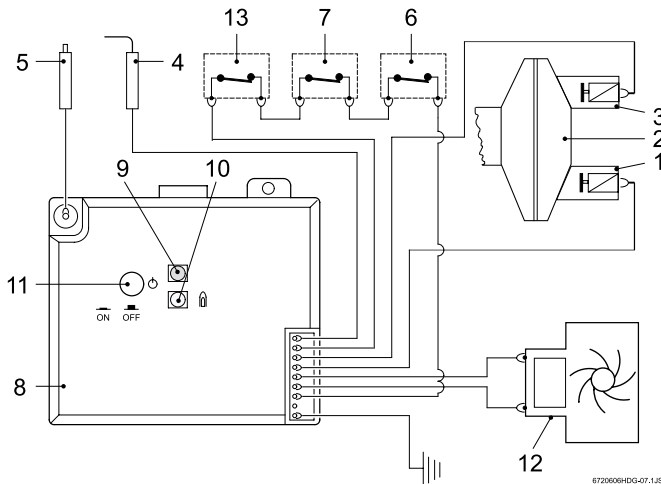

Fig. 13 - Electrical wiring diagram
4. Pilot electrovalve switch may need to be replaced (See Fig 13).
5. Electronic Control Box may need to be replaced (See Fig 13).
4. The electrical Control Box (Fig. 13) may need to be replaced.